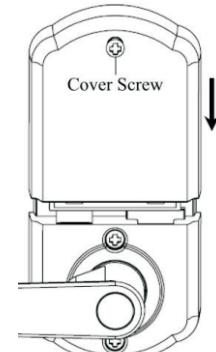

fig. 11
5. Slide cover down then tighten cover screw (see figure 11).